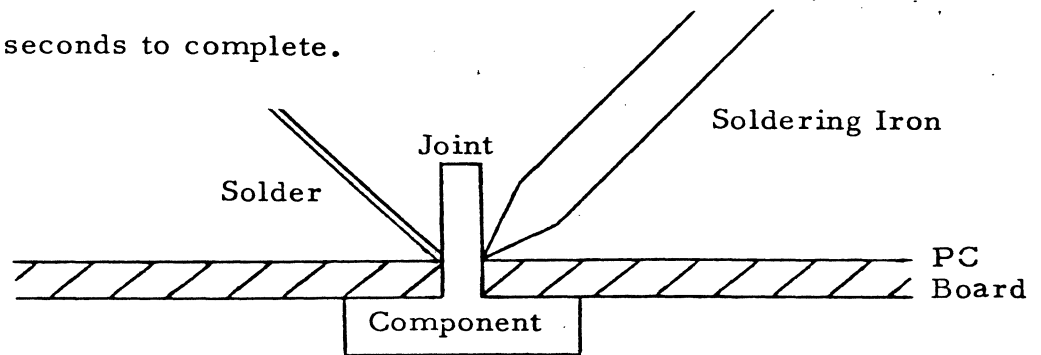

Figure 1 - Soldering Procedure
2.1.2.1 Soldering Procedure (Figure 1)